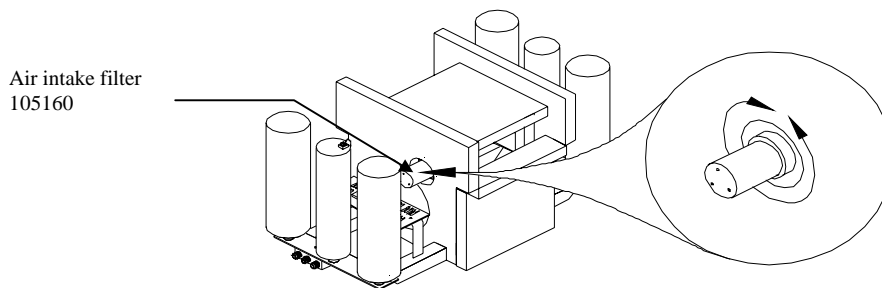

Figure 6
- Twist the entire filter housing off and remove it from the unit (figure 6).